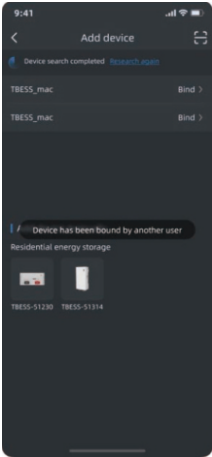

Figure 4
- 4)Figure 4: The device has been bound. Please unbind it and add it again, or contact the device owner to share the device with you.